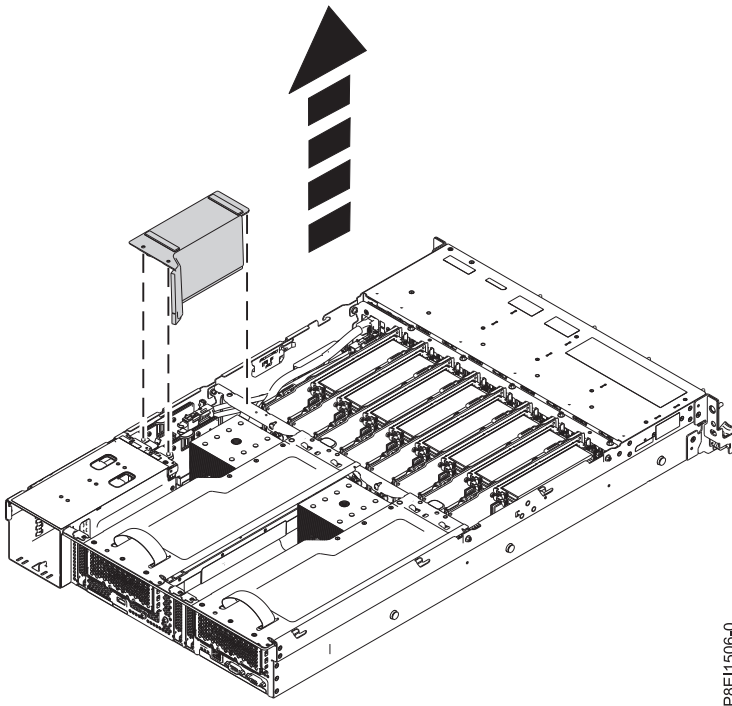

Figure 62. Removing the power riser air baffle
2. Remove the power riser air baffle. See Figure 62.